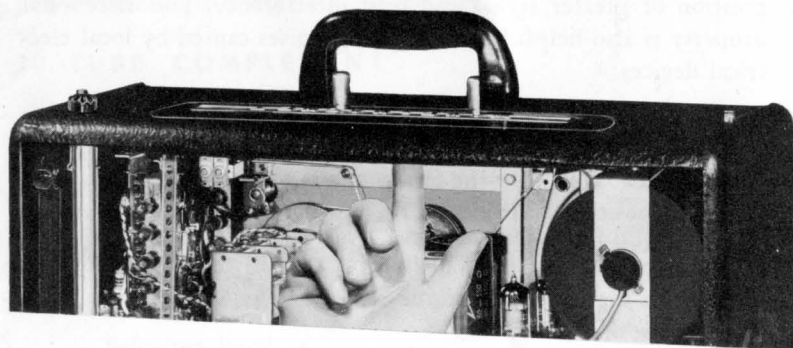

Figure 13—Press Up Thru Finger Hole to Remove Wavemagnet.
- In steel structures and vehicles, remove the Broadcast Wavemagnet by pressing up through the finger hold provided at the center under edge of the cabinet top. (See fig. 13.)